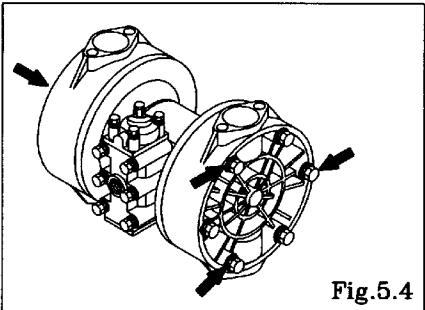

Fig.5.4
See [9. Exploded View] on after p. 11. (Fig. 5.4 shows the NDP-20 BP□.)
- Remove the 12 retainer bolts from the out chamber, and remove the out chamber. [Fig.5.4]